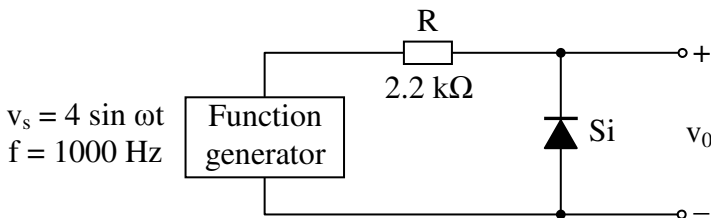
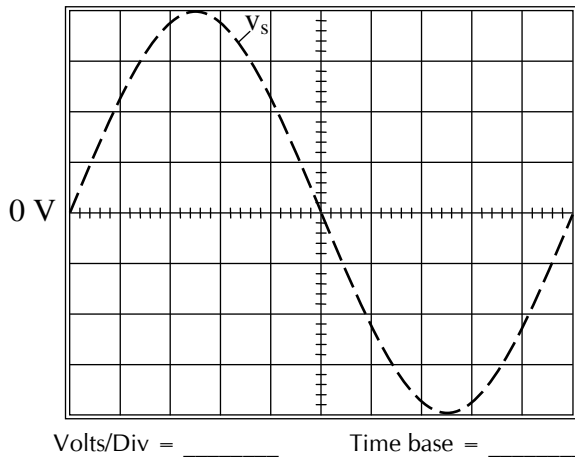

Fig. 3.7 Half-wave rectifier circuit
Fig. 3.8 Waveforms v_s and v_0 (theoretical)
- Construct the network of Fig. 3.7. Record the measured value of the resistor R. $R_{\text{meas}} =$ _____ k Ω .
2. Using the threshold voltage of Step 1 (Experiment 3.1.1) determine the theoretical output voltage v_0 for Fig. 3.7 and sketch the waveform on Fig. 3.8 for one full cycle using the same sensitivities employed in Step 4 (Experiment 3.1.1). Indicate the maximum and minimum values on the output waveform.